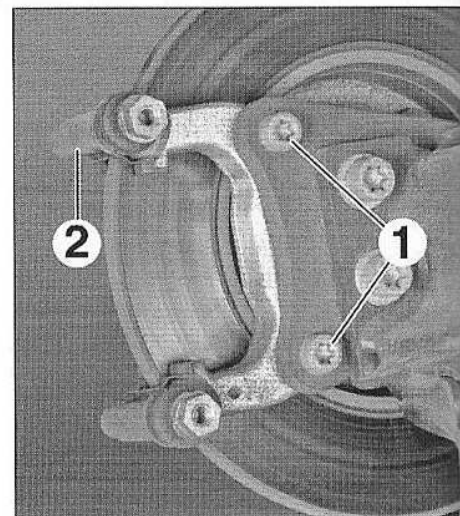

FIG.13
- les vis (1) (Fig.13),
- le support d'étrier (2),